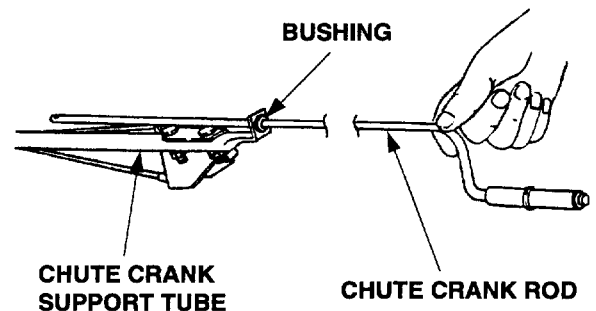

Figure 7
9. After first making sure the bushings are installed in both the rearward end and the eye bolt of the chute crank support assembly (D), slide the chute crank rod assembly (E) into the support tube assembly. Refer to Figure 7.